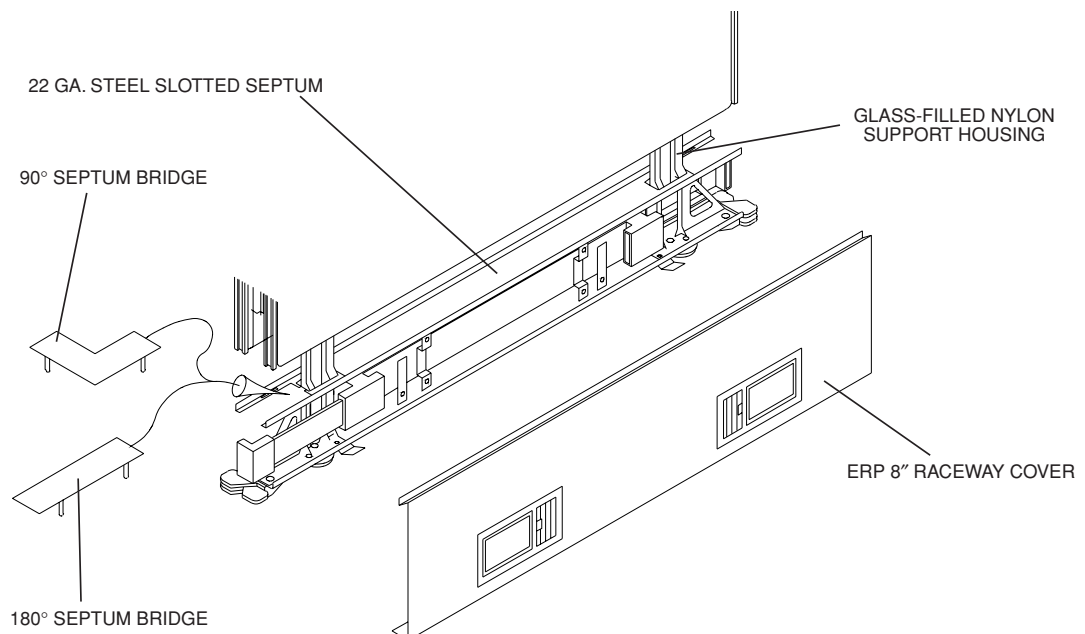

FIG. 1
**Note: Each ERP 90° trim includes (1) 90° steel septum bridge. Each ERP T-post trim includes (2) 90° steel septum bridges.**
2. Bend the 4 tabs down 90° on each end of the steel 90° steel septum bridges (Fig. 1).